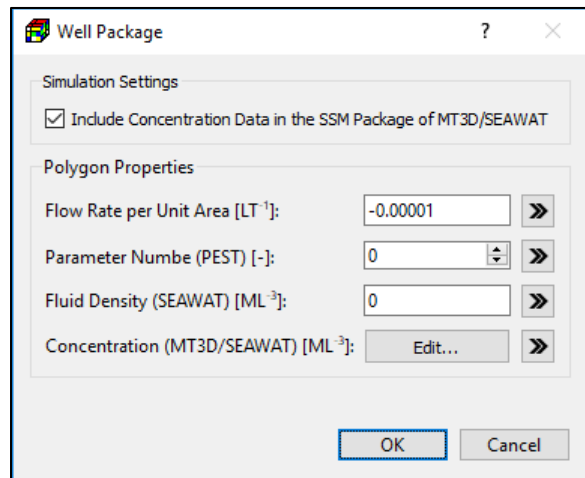

Figure 95. The Well Package dialog box for specifying polygon properties
4. **Polygon input method:** Figure 95 shows the dialog box for specify the following data are to a polygon. These data can then be assigned to model cells following the rules described in Section 3.4.2.3 and additional rules below.